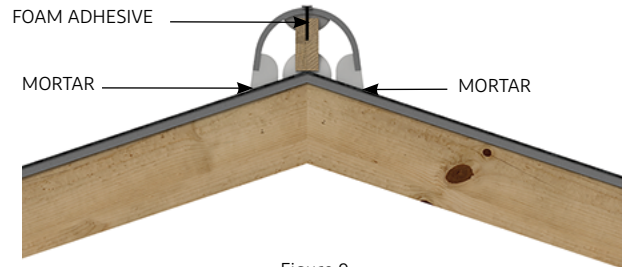

Figure 9.
5. Point up with mortar to the open space between the top of the field tile and the bottom of the edge of the ridge tile. Point up to a proper finish. (See Figure 9)